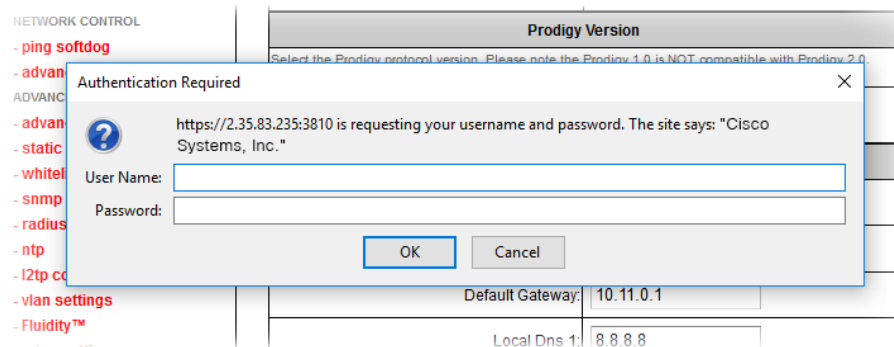

Figure 63. Web browser (Authentication Required dialog)
- The web browser will show the **Authentication Required** dialog (Figure 63 (page 138)). If needed, use the dialog to log in again.